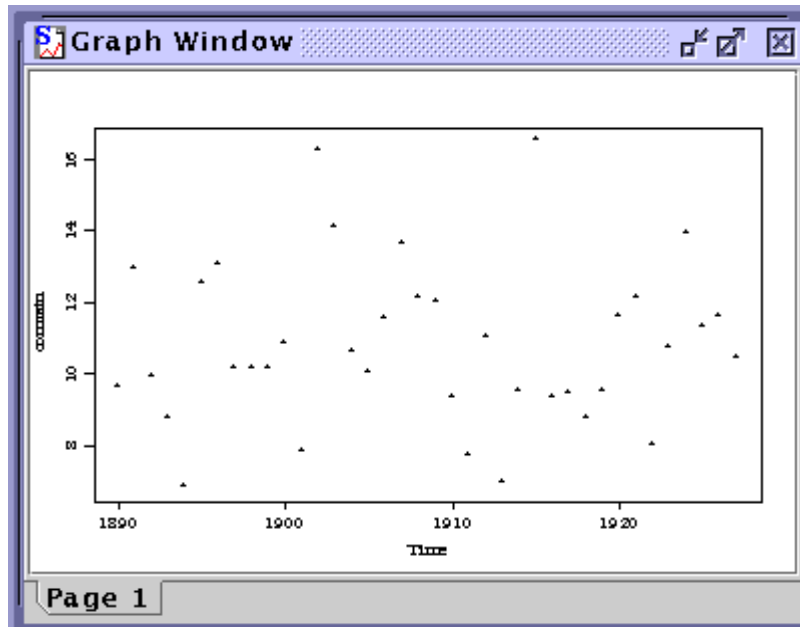

Figure 3.5: A **Graph** window displaying a Trellis graph.
**Graph Window** By default, Spotfire S+ displays graphics in a Java graphics window, as shown in Figure 3.5. Each **Graph** window can contain one or more graphs, and you can work with multiple graph windows in your Spotfire S+ session.